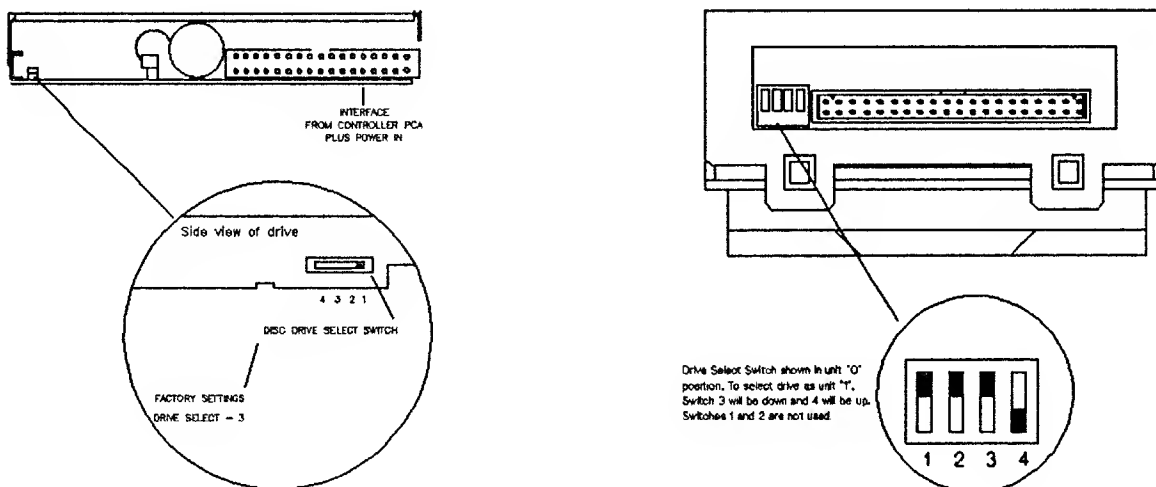

Figure 8-6. HP 9153/54 A&B drive configurations.
3. Ensure that configuration switch on the controller board is set correctly. (Figure 8-6)
4. Ensure that configuration switch on drive (See Figure 8-6) is set correctly.
5. Ensure that configuration switch on drive (See Figure 8-6) is set correctly.
If the drives are removed or replaced, refer to Figure 8-6 for the proper setting of the drive select switch.